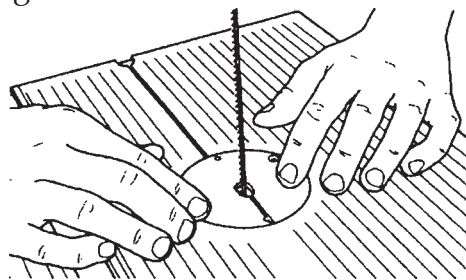

Figure A-35
- Snap down the front of the insert, as shown in Fig. A-35.